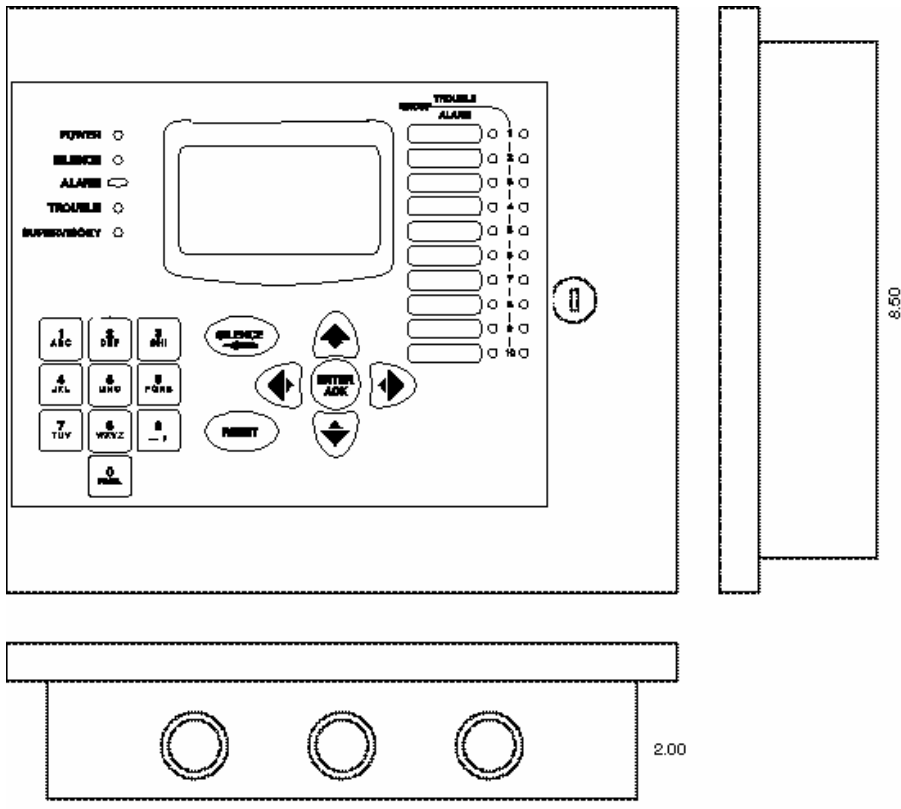

Fig.6-2. Remote Cabinet Diagram
In addition to the local PDC-UL the GF-4200 also allows to connect the remote Display Annunciator (Remote Annunciators). The maximum amount of Remote GF-4200-LCD that can be connected to one Panel is 15. The Remote Annunciator is intended for recessed mounting and includes the Remote module and the Remote Cabinet Enclosure. The annunciator board (pos.1 as shown in Fig.6-2) is tied by four nuts to the frame (pos.3) and from the back side the frame is tied to the box (and shown in pos.2) by four screws (pos.4). The annunciator module is connected to the proprietary RS-485 network. The address of Remote may be from “1” up to “15”, it is put on by DIP switch on the annunciator board. The Remote Annunciator will mimic the Local Display at the main panel and allows Silence and Reset functions.